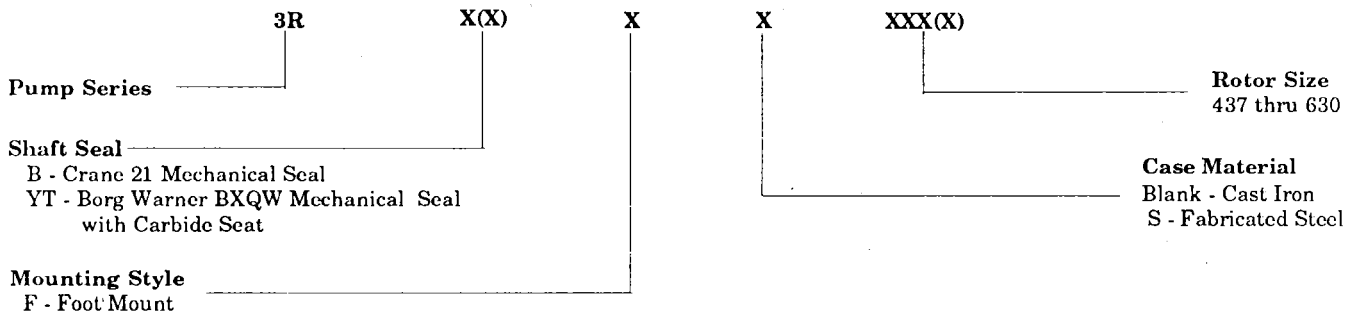
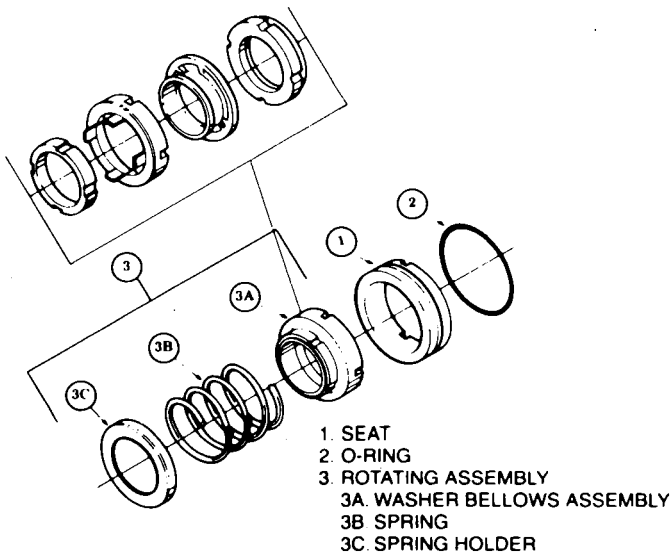
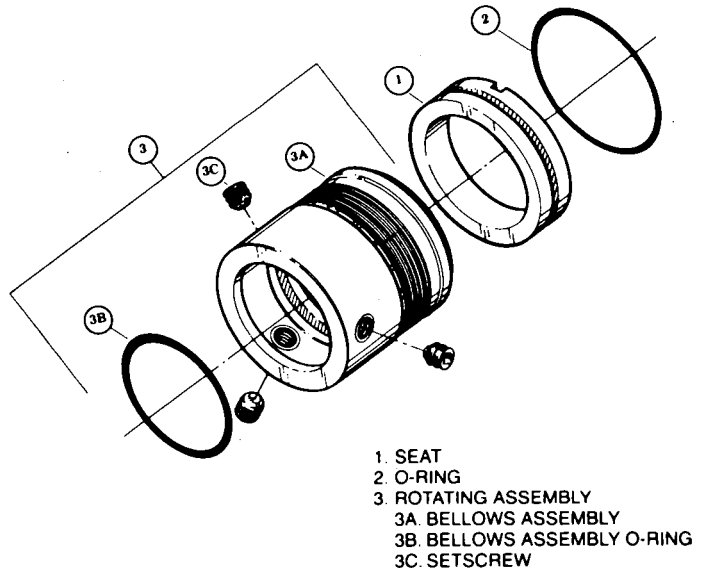
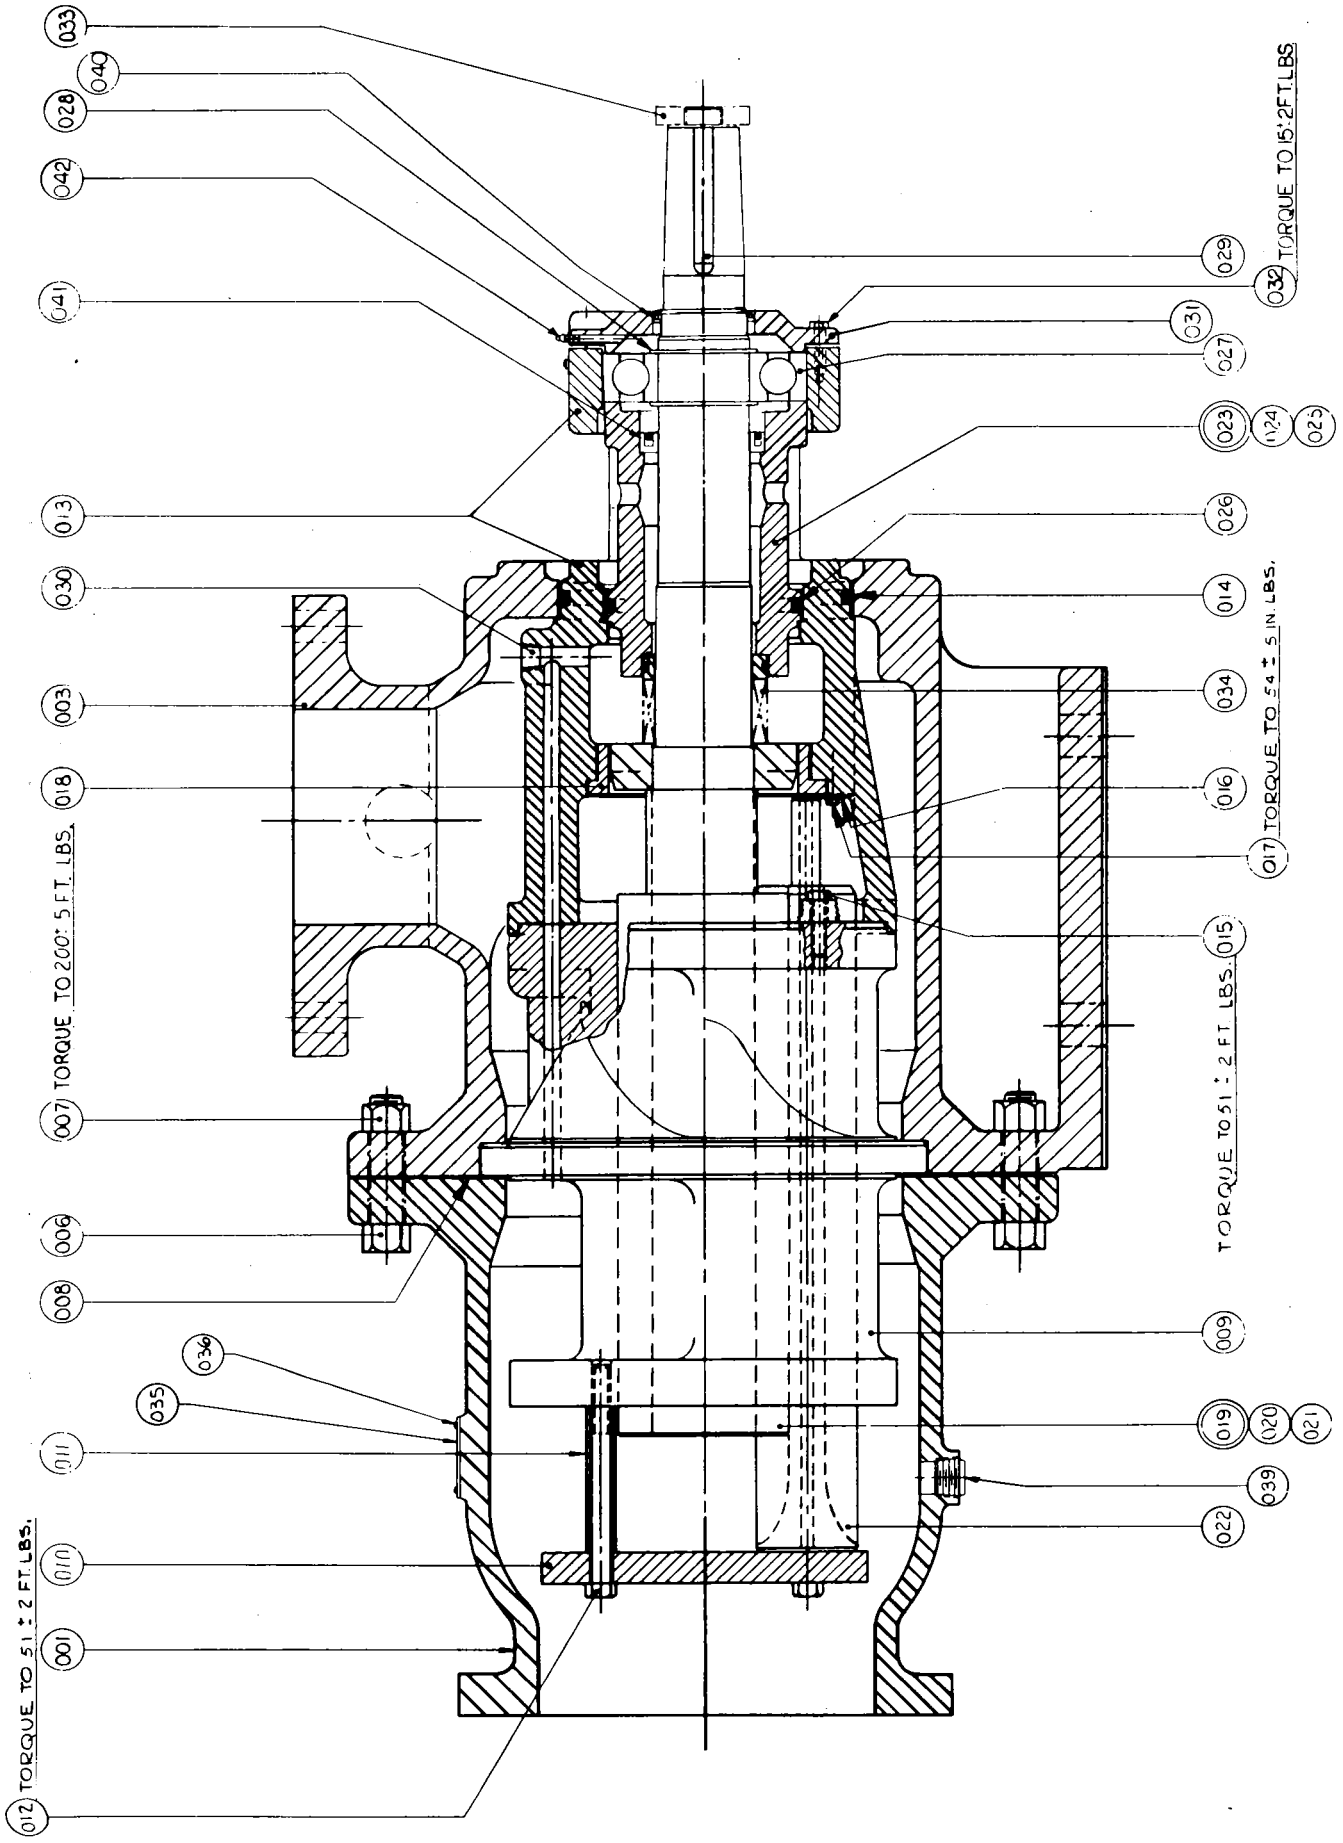

FIGURE 1. Definitions of Model Designators
FIGURE 2. Crane 21 Mechanical Seal
FIGURE 3. Borg-Warner BXQW Mechanical Seal
FIGURE 4. Pump Assembly
This instruction manual covers the Imo Pump Series 3R IMO pumps, rotor sizes 437, 462, 550 and 630. Specific models covered by this manual are identified in Table 1. The model of each particular pump is identified on the pump nameplate. Refer to Figure 1 for definitions of model designators. Refer to assembly drawing, Figure 4, and mechanical seal drawings, Figures 2 and 3, as you use this instruction manual.
- b. Remove inner retaining ring (028). Remove spacer sub-assembly (023) from power rotor (020) shaft. Removal of spacer sub-assembly (023) will also remove O-ring (026), lip seal (041) and mechanical seal stationary seat and O-ring (1 and 2, Figure 2 or 3).
- c. Remove O-ring (026) from groove of spacer (023). Remove mechanical seal seat and O-ring (1 and 2, Figure 2 or 3) from spacer (023). Remove O-ring (2, Figure 2 or 3) from seal seat (1, Figure 2 or 3).
5. Remove mechanical seal (034) rotating assembly from power rotor (020) shaft as follows:
Crane Type 21 (Figure 2). Slide rotating assembly (3) from power rotor.
Borg-Warner Type BXQW (Figure 3). Loosen setscrews (3C) and slide rotating assembly (3) from power rotor.
6. Install mechanical seal (034) rotating assembly as follows:
Crane Type 21 (Figure 2). Slide rotating assembly (3) on power rotor (020) shaft next to balance piston (021).
Borg Warner Type BXQW (Figure 3). Slide rotating assembly (3) on power rotor (020) shaft next to balance piston (021). Tighten setscrews (3C).
7. Assemble spacer (023) as follows:
- a. Install O-ring (2, Figure 2 or 3) on mechanical seal seat (1, Figure 2 or 3). Install assembled seal seat (1, Figure 2 or 3) in counterbore of spacer (023), ensuring that roll pin (025) engages bore in seal seat.
- b. If applicable to pump type assembly, install lip seal (041) in spacer (023) as indicated on assembly drawing, Figure 4.
- c. Install O-ring (026) in groove of spacer (023).
8. Install assembled spacer (023) on power rotor (020) shaft. Install inner retaining ring (028) in groove of power rotor (020) shaft. If applicable, fill recessed chamber of spacer (023) between lip seal (041) and retaining ring (028) with Mobil Grease No. 28 or equivalent to ensure proper lubrication of bearing.
9. Press bearing (027) on power rotor (020) shaft, pressing only on inner race of bearing. Install outer retaining ring (028) in groove of power rotor (020) shaft to retain bearing.
10. Install assembled power rotor (020) in pump by meshing threads of power rotor (020) with threads of idlers (022) and rotating power rotor in the normal direction of rotation.
11. If applicable to pump type assembly, install lip seal (040) in retainer (031) as indicated on assembly drawing, Figure 4. If applicable, pack recessed chamber of retainer (031) with Mobil Grease No. 28 or equivalent to ensure proper lubrication of bearing. Install retainer (031) to balance piston housing (013) by installing bolts (032). Torque bolts (032) to 15 lbs. ft. (± 2 lbs. ft.).
1. Follow procedures outlined in Steps 1 through 3 of Replacement of Internal Cartridge. Locate cartridge in a clean, suitable work area. Disassemble internal cartridge as outlined below. Refer to pump assembly drawing, Figure 4; Mechanical seal drawings, Figures 2 and 3; and List of Material, Table 3, during disassembly procedures.
2. Remove key (029) from keyway of power rotor (020) shaft.
3. Remove bolts (012), spacers (011) and thrust plate (010) from rotor housing (009).
4. Remove idlers (022) from idler bores at suction end of rotor housing (009).
5. Remove and disassemble power rotor (020) by following procedures outlined in Steps 2 through 5 of Servicing Ball Bearing and/or Mechanical Seal.
6. Remove assembled balance piston housing (013) from rotor housing (009) by removing bolts (015). Disassemble balance piston housing as follows:
- a. Remove O-ring (014) from groove of balance piston housing (013).
- b. Remove bolts (017) and washers (016) and remove bushing (018) from balance piston housing (013).
NOTE: Prior to assembly of pump, all parts should be cleaned and inspected for nicks or burrs. Replace all worn or damaged parts. It is recommended that gasket (008), O-rings (014 and 026), mechanical seal (034), bearing (027), and lip seals (040 and 041) be replaced when disturbed from their original installed position. Wipe each part with light lubricating oil prior to installation. Refer to assembly drawing, Figure 4; mechanical seal drawings, Figures 2 and 3; and List of Material, Table 3, during reassembly of pump.
1. Install bushing (018) in balance piston housing (013). Install washers (016) and bolts (017) in balance piston housing (013) to retain bushing (018).
2. Install O-ring (026) in groove of balance piston housing (013). Install assembled balance piston housing (013) on rotor housing (009) using bolts (015). Torque bolts (015) to 51 lbs. ft. (± 2 lbs. ft.).
3. Install idlers (022) in idler bores of rotor housing (009).
4. Install thrust plate (010) on rotor housing (009) using spacers (011) and bolts (012). Torque bolts (012) to 51 lbs. ft. (± 2 lbs. ft.).